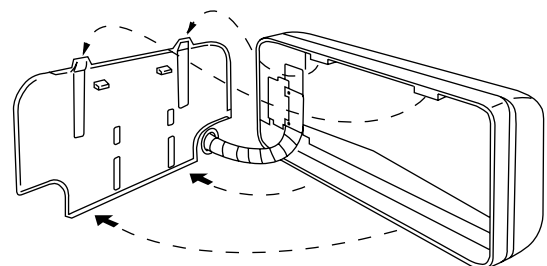

Fig. 3-43
- (2) Push the wiring, refrigerant tubing, and drain hose through the hole in the wall. Adjust the indoor unit so it is securely seated on the rear panel. (Fig. 3-43)
- (3) Carefully bend the tubing (if necessary) to run along the wall in the direction of the outdoor unit and then tape as far as the fittings. The drain hose should come straight down the wall to a point where water run off won't stain the wall.